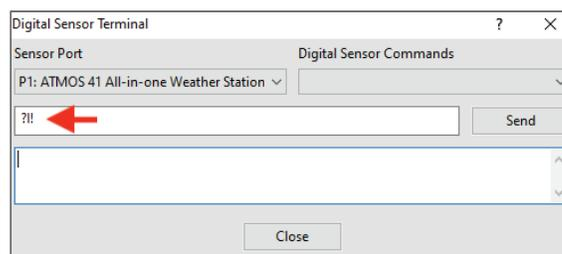

Figure 20 ?I! command entered
7. Enter the **?I!** command in the prompt field (Figure 20).